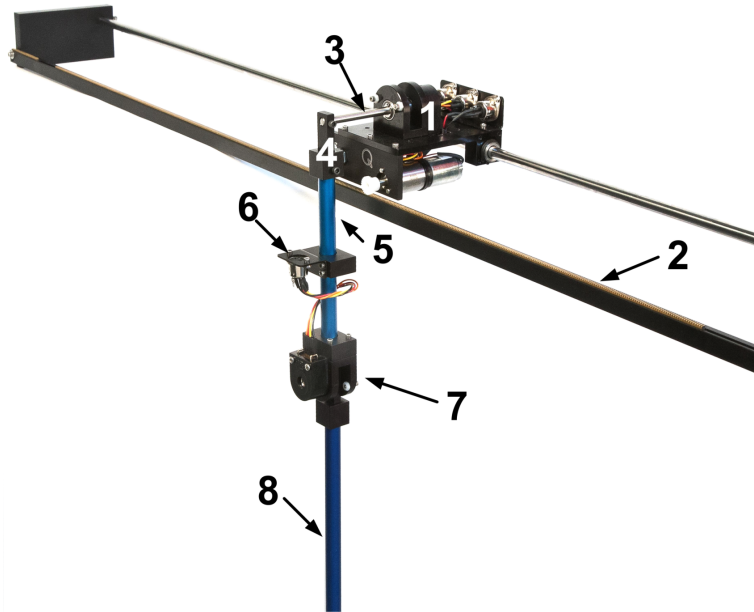
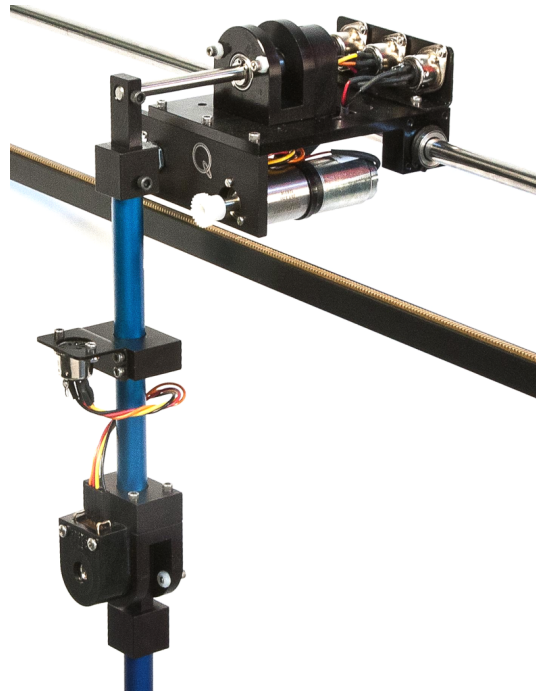

Figure 2.1: Linear Inverted Double Pendulum (DBPEN-LIN).
Figure 4.1: Slide the T-Fitting of the pendulum
As depicted in Figure 2.1, the DBPEN-LIN is coupled to a Linear Servo Base unit (IP02). This slides along a steel shaft and is driven via a rack and pinion system. See the IP02 User Manual for full details regarding the IP02 Base Unit system. The balance control computes a voltage based on the angle measurements from the encoders. This control voltage signal is amplified and applied to the IP02 motor. The linear cart moves accordingly to balance the two links and the process repeats itself.
The components of the Linear Double Pendulum module are listed in Table 2.1 below and labeled in Figure 2.1.
1. As depicted in Figure 4.1, do not place the additional weight on the IP02 cart.
2. As shown in Figure 4.1 slide the T-Fitting of the pendulum, ID #4 in Figure 2.1, onto the metal shaft, ID #3 in Figure 2.1, and tighten the set-screw on the T-Fitting to brace the pendulum on the metal shaft.